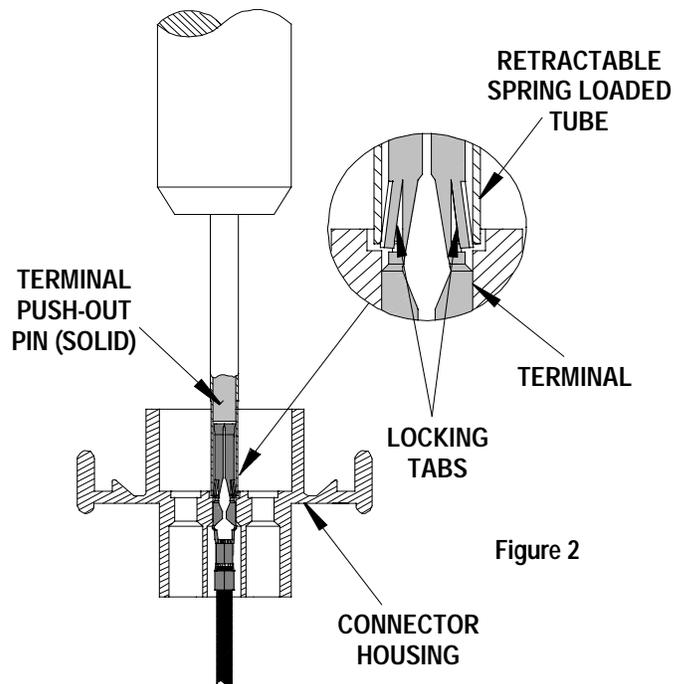

Figure 2
2. The Retractable Spring Loaded Tube must depress the Locking Tabs on the terminal before it contacts the Terminal Push out pin. Rotate Extractor Tool while following above instructions. See Figure 2.